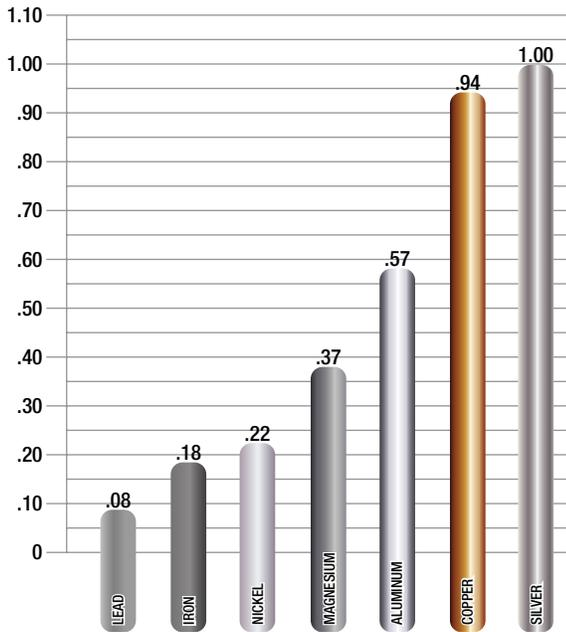

Figure 3-12. Heat conductivity of various metals.
*Figure 3-12* illustrates the different rates of conduction of various metals. Of those listed, silver is the best conductor and lead is the poorest. As previously mentioned, copper and aluminum are used in pots and pans because they are good conductors. It is interesting to note that silver, copper, and aluminum are also excellent conductors of electricity.